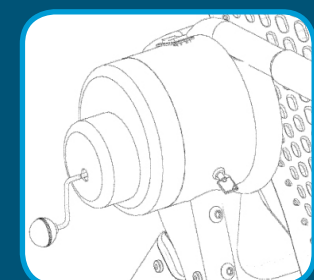

Figure 12
- Insert the emergency crank into the hole on the motor housing and turn the crank **counter clockwise** (Figure 12) to rotate the table upright.